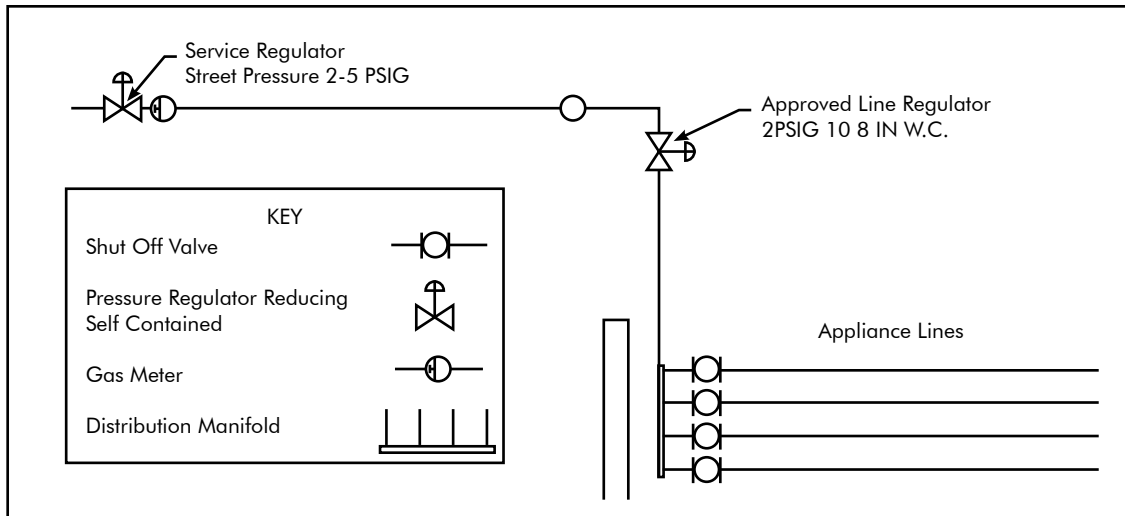

FIG. 2-1 Elevated Pressure System Arrangement
3. Using FIG. 2-1 as a guide, the elevated pressure system can be described as follows: